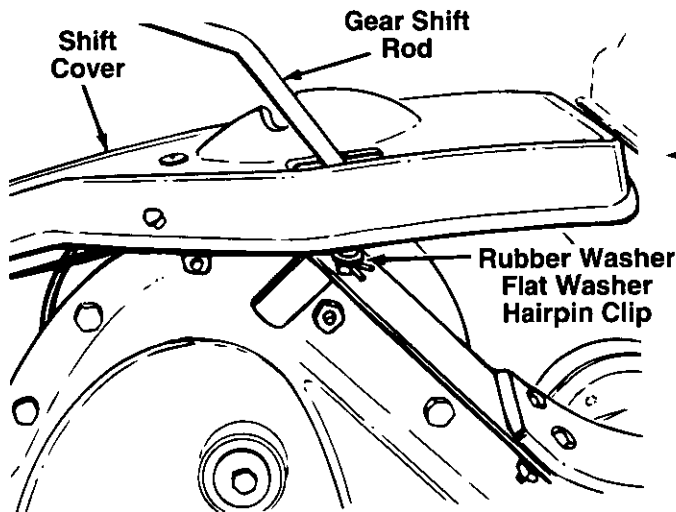

FIGURE 4.
2. Insert the end of the gear shift rod through the opening in the top of the shift cover, and into the shift bracket. See figure 4. Secure with rubber washer, flat washer and hairpin clip.